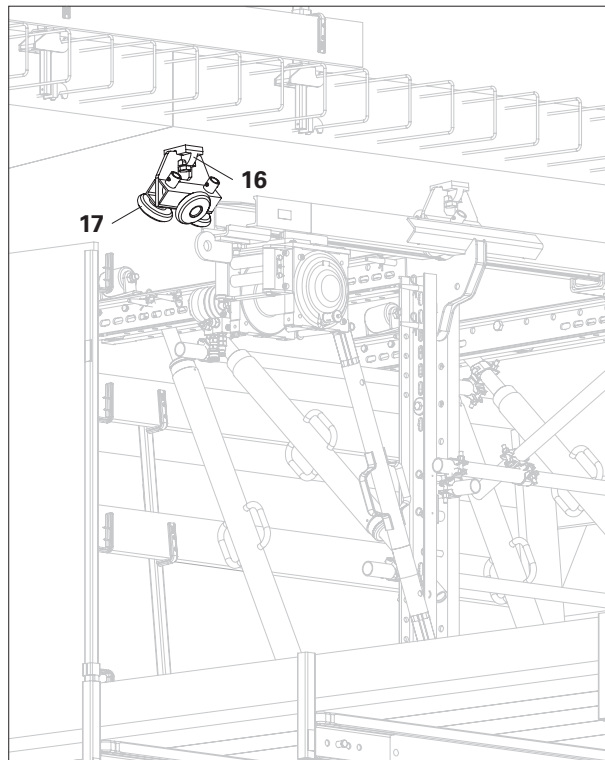

Fig. 28
1. Screw Suspension Head M24 VARIOKIT (16) into the Anchor Sleeve M24.
2. Attach the Roller Unit VARIOKIT (17).
- (Fig. 28)